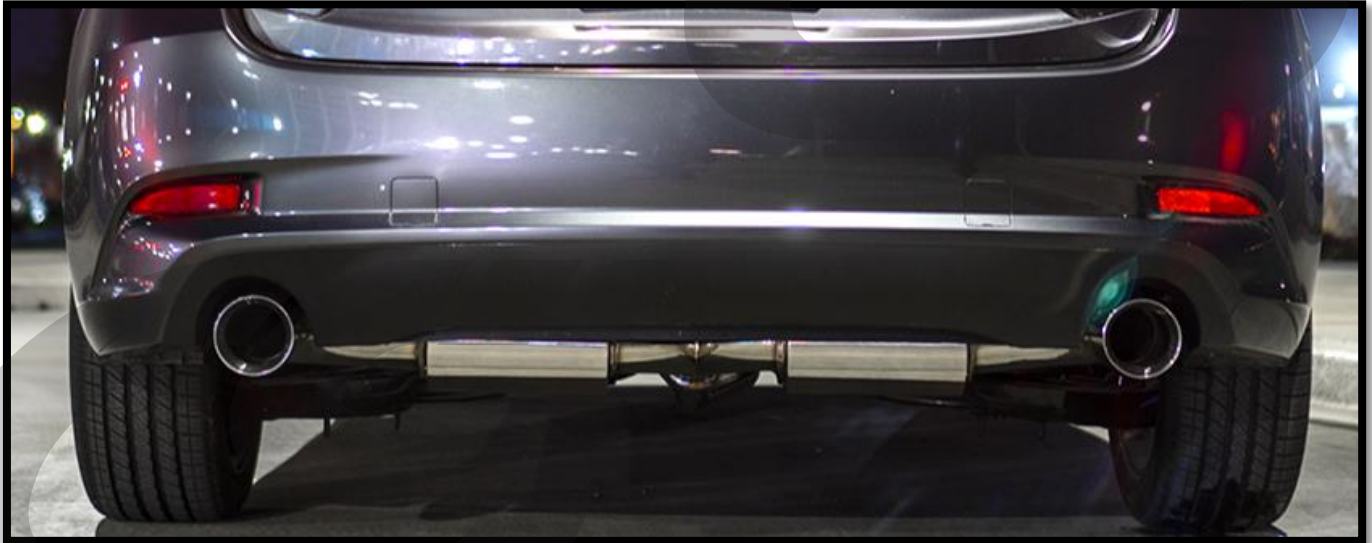

Figure 7a
a) Align the exhaust tips and hangers so the exhaust is straight & centered. **Figure 7a** shows how the exhaust tips will look when properly aligned.
d) Double check tip position for clearance. Reference **Figure 7a** for proper positioning.